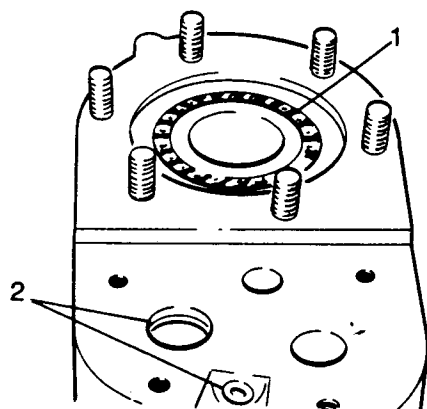

Fig H1.98
(10) Refer to Fig H1.98. Remove the bearing (1) from the housing by lightly tapping the bearing outwards.
(11) Remove the four wheel drive pin sealing ring (2) and the ring for the high and low selector shaft.